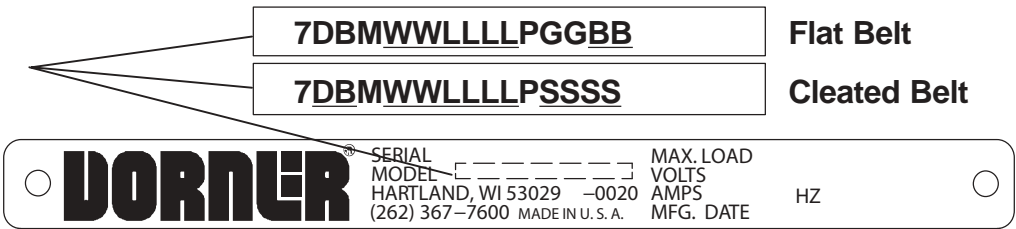

Figure 43
Refer to your serial and model number plate (Figure 43). From the model number, determine conveyor width (WW), length (LLLL) and belt type (BB). Use data to configure belt part number as indicated below.
Refer to your serial and model number plate (Figure 43). From the model number, determine conveyor type (D), width (WW), length (LLLL), belt cleat type (B), and cleat spacing (SSSS). Use data to configure belt part number as indicated below.